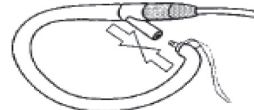

Fig. 4-6D
5. Close the loop by holding the fabric directly behind the release tab and pushing the brass barb into the receptacle on the “Y” connect. (See Figure 4-6D)